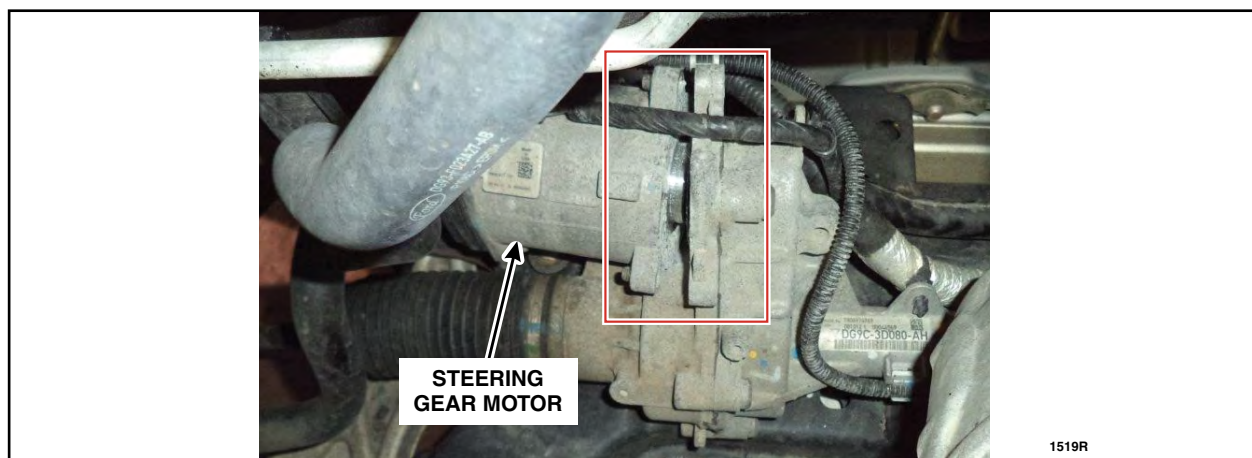

FIGURE 8
1. Inspect the steering gear motor for signs of separation, broken or missing bolts. See Figure 8.